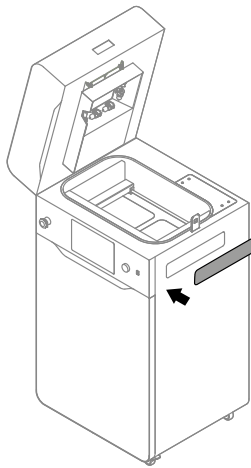

Fig. 13.83 Mounting back the access panel on the right side of the printer.
25. Mount back the access panel on the right side of the printer (fig. 13.83).